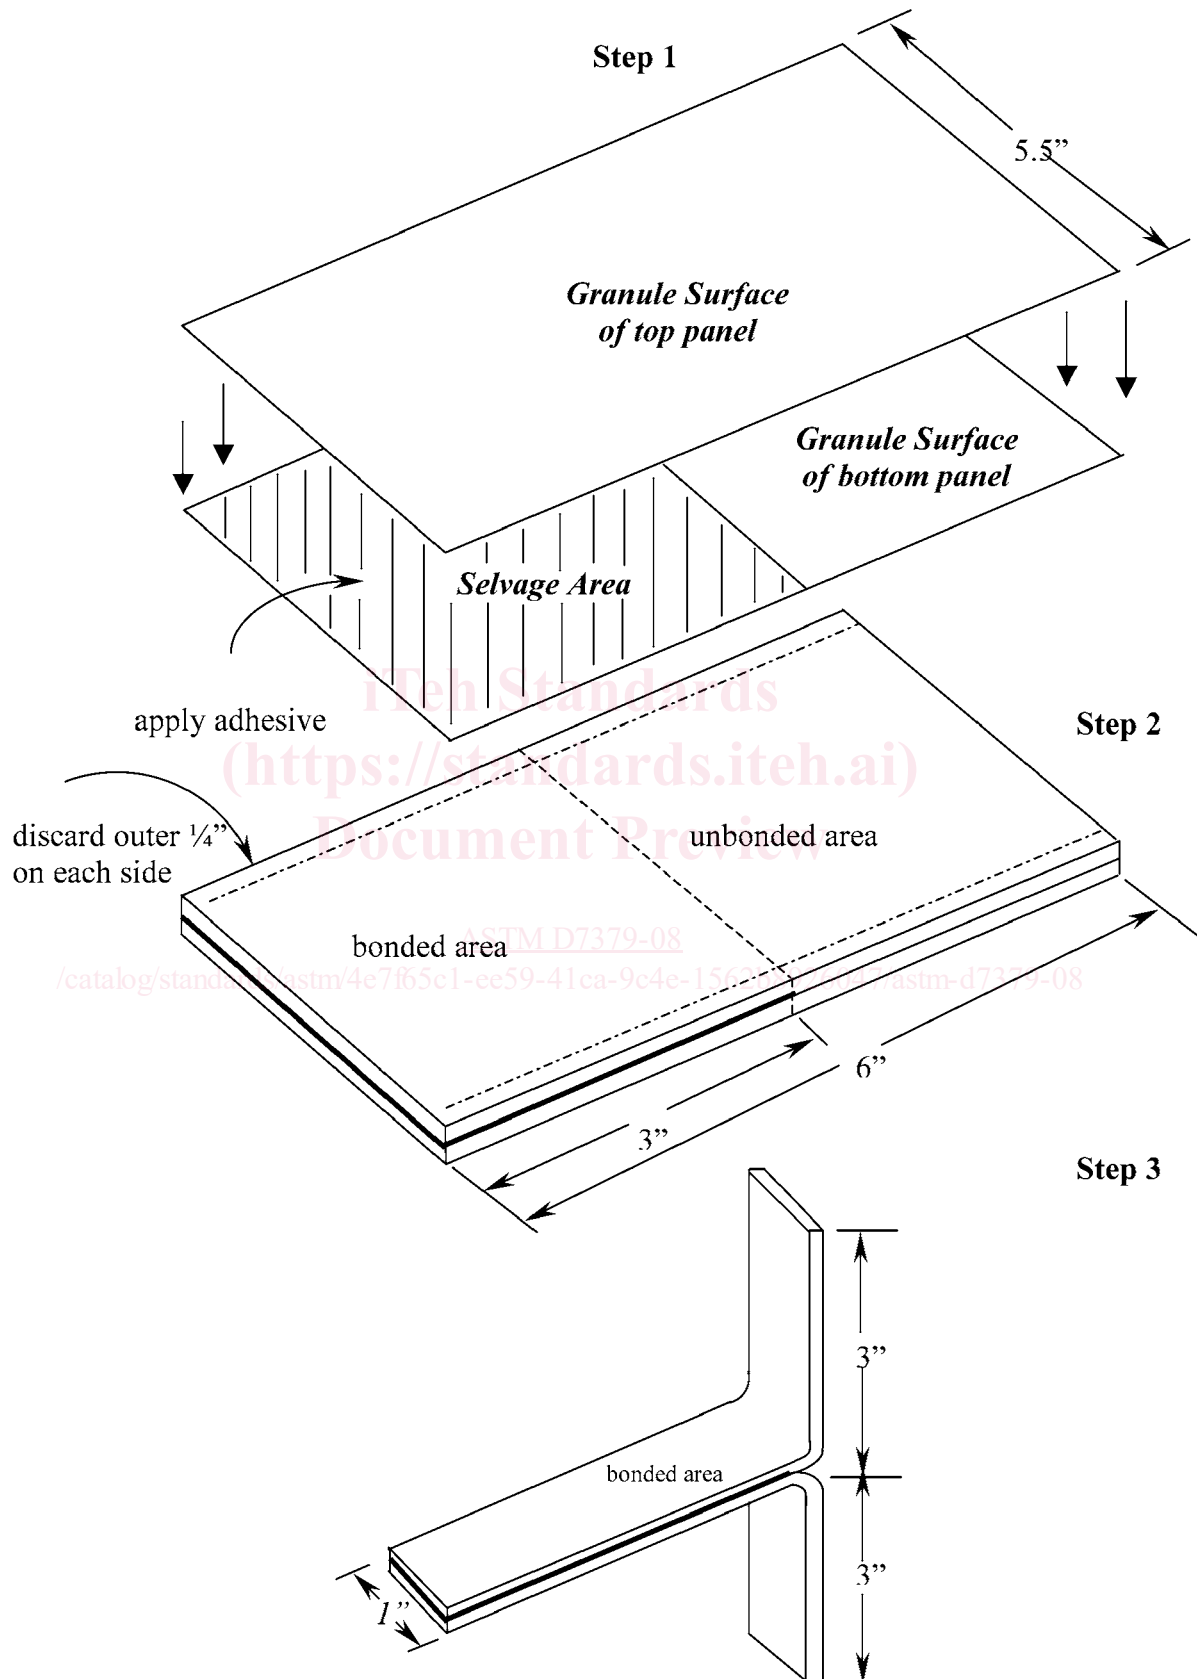

FIG. 1 T-Peel Bonding Configuration for a Modified Bitumen Lap
6.1.1 *Modified Bitumen Samples for Testing*—Samples for testing shall consist of two 140 by 152 mm (5.5 by 6 in.) test panels of modified bitumen, bonded with the adhesive to be tested, and cut into 25 mm (1 in.) specimens as shown in **Fig. 1**. Cut the modified bitumen sheet materials and mate the sides to be bonded facing each other.
6.2 Stir the adhesive to be tested until it is uniform. Spread 5.0 ± 0.3 g of the adhesive evenly over the selvage portion of a bottom panel. Place the top panel over the adhesive-coated area of the bottom panel (as shown in **Fig. 1**) in the same manner, as a field lap would be made.